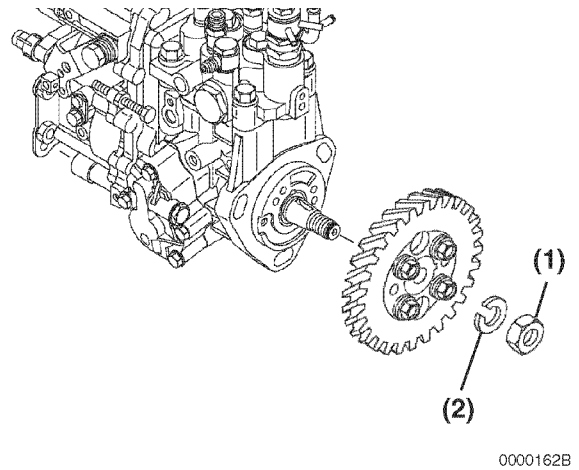

Figure 7-15
21. Once the fuel injection pump drive gear and hub assembly has “popped” loose from the tapered fuel injection pump drive shaft, carefully remove the drive gear nut (Figure 7-15, (1)) and lock washer (Figure 7-15, (2)).